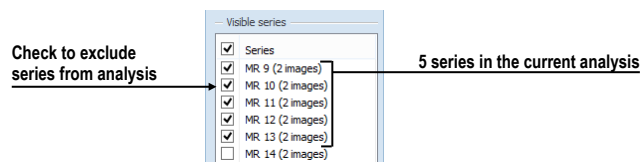

Figure 374 – Series in analysis section in the tool tab
1. In the **Quantitative analyses** tool tab, in **Visible series** list (see Figure 374), find the series which needs to be included or excluded.